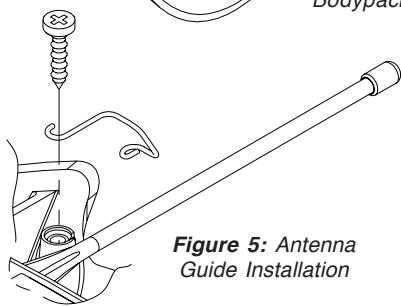
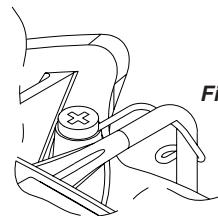

Figure 5: Antenna Guide Installation
Figure 6: Orientation
- 7) If desired, install antenna guide using screw provided (see figure 5). First drive in screw completely, then back it out slightly, hook on antenna guide and screw it down. Orient antenna within guide to achieve vertical antenna polarization (see figure 6).